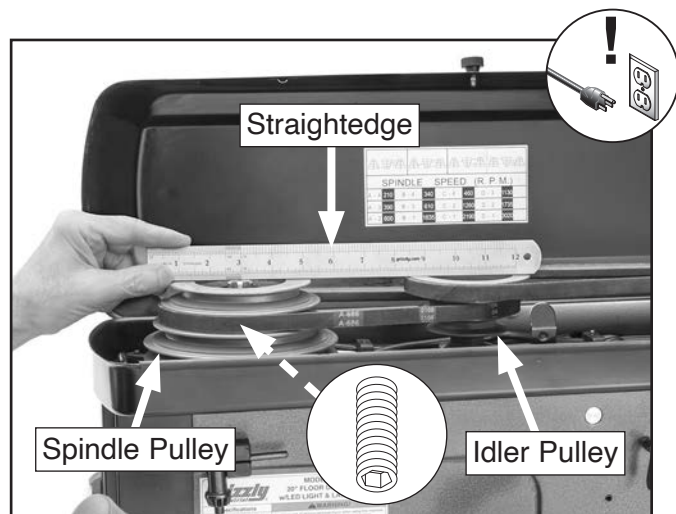

Figure 59. Checking pulley alignment.
3. Place straightedge against spindle and idler pulleys (see **Figure 59**) and check that they are aligned. There should be no space anywhere between straightedge or pulleys.
5. Loosen set screw on spindle pulley, adjust pulley on shaft until it aligns with idler pulley, then tighten set screw (see **Figure 59**).